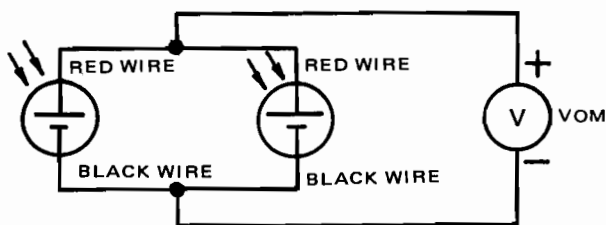

Fig. 3-5-3
10. Connect two solar cells in parallel as indicated in Fig. 3-5-3.